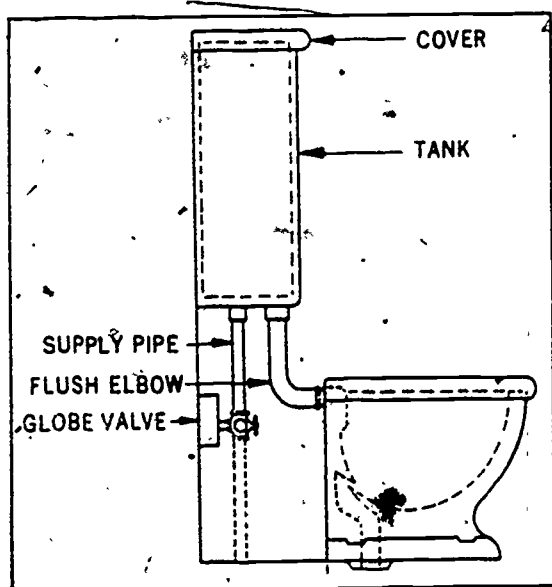

Figure 2-27. Floor-mounted water closet.
a. **Floor-mounted water closet.** The floor-mounted water closet, shown in figure 2-27, is probably the oldest type. It is the old standby and is used more than any of the others. For flushing purposes, it may be equipped with a water tank or a flush valve. The tank may be mounted on the wall or on the back end of the water closet bowl. Water closet flush valves are usually installed above the water closet bowl at a height which is convenient for the user. Water closet bowls are also constructed differently. Some use less water than